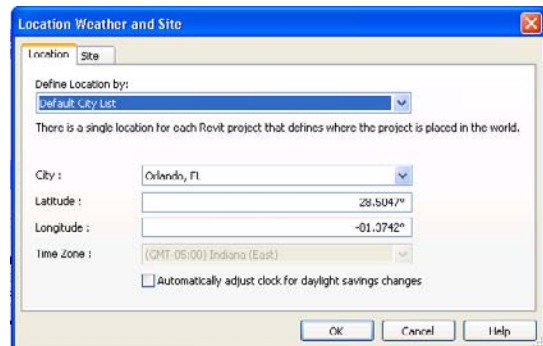

Figure 9.6
12. Click the Browse button to the right of the location. This will take you to the Location Weather And Site dialog box. Set the Define Location By option to Default City List, and then set City to **Orlando, FL** (Figure 9.6). Click OK to close this dialog box.